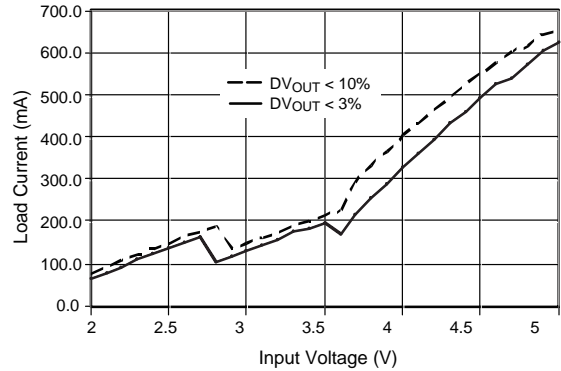

Figure 9. Output Current Capacity vs. Input Voltage
- Refer to Figure 9 in Typical Performance Characteristics